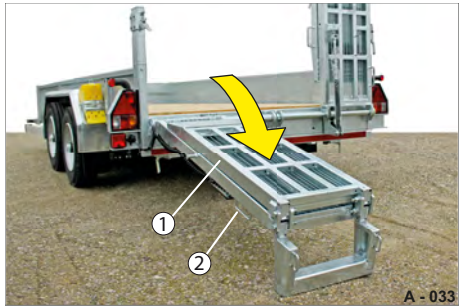

Fig. 35 Lowering the ramp
- ▶ Securely hold the outside of the ramp with the handle (Fig. 35/2).
- ▶ Pull or push the ramp (Fig. 35/1) until the support foot is on the ground.